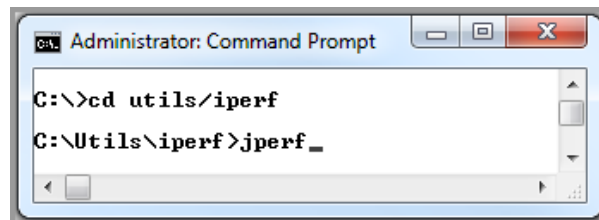

Figure 110 Command Line
2. Run the Jperf application, as shown in Figure 110.